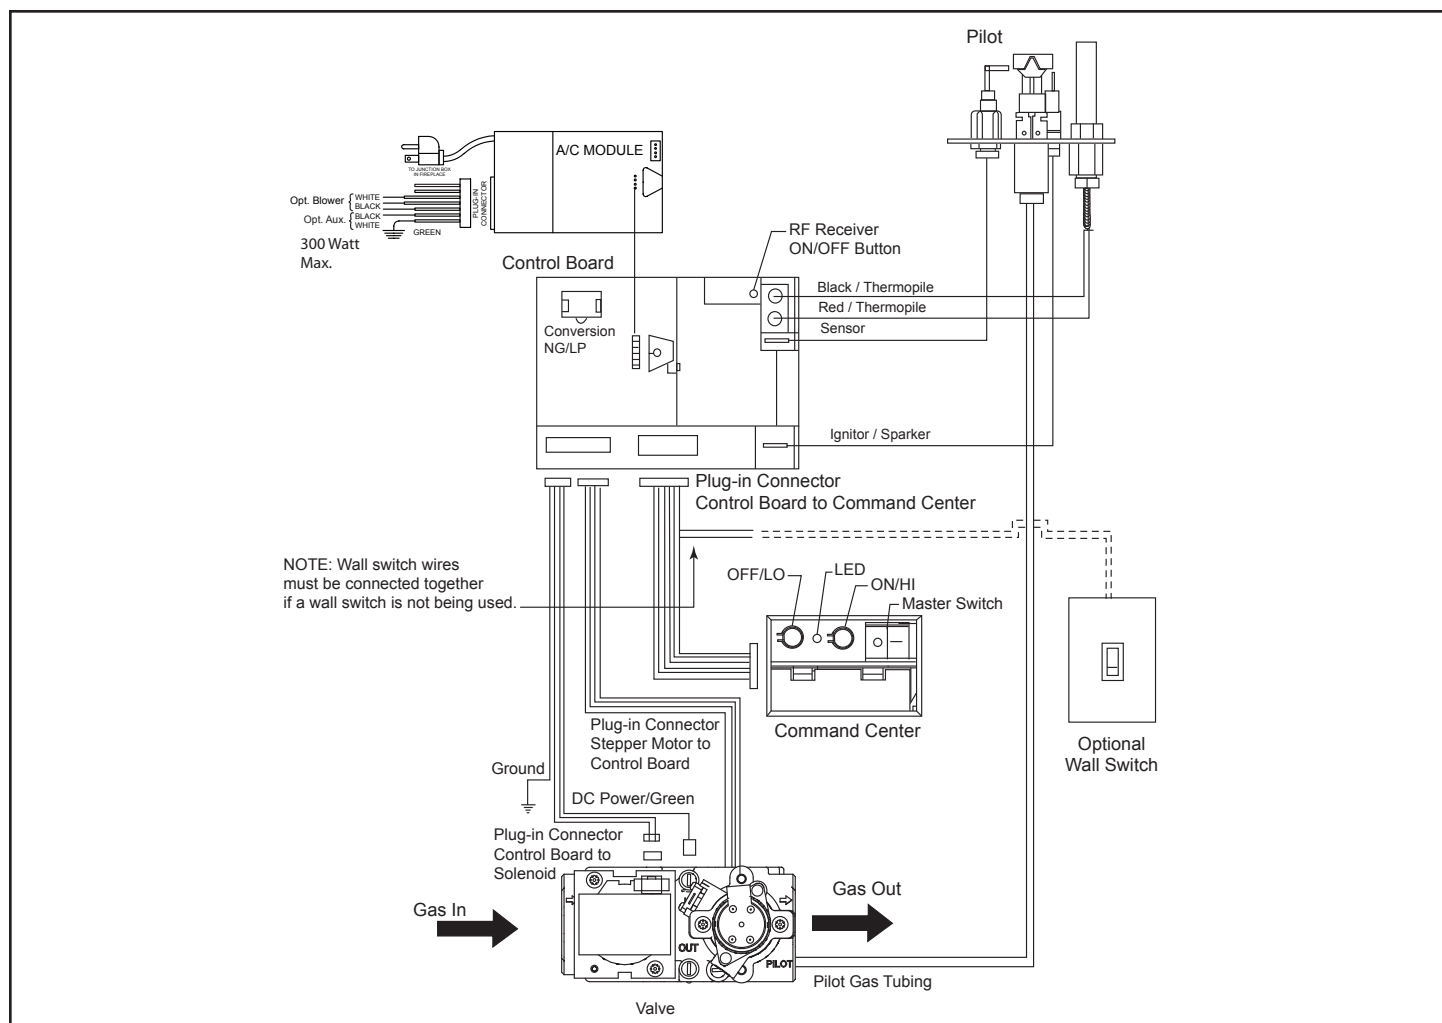

Figure 3.37 - Signature Command Wiring Diagram
The wall switch wire connection is located off the 2 ft. wire harness from the control box to the command center. Figure 3.37. The connection is labeled “Wall Switch”. Unplug the male and female connectors and connect the two (2) low voltage wires provided. Run wire to desired location on wall. Up to 50 ft. of 18 ga. wire may be used if necessary. Attach wires to wall switch. Mount the wall switch in to junction box and screw on cover.